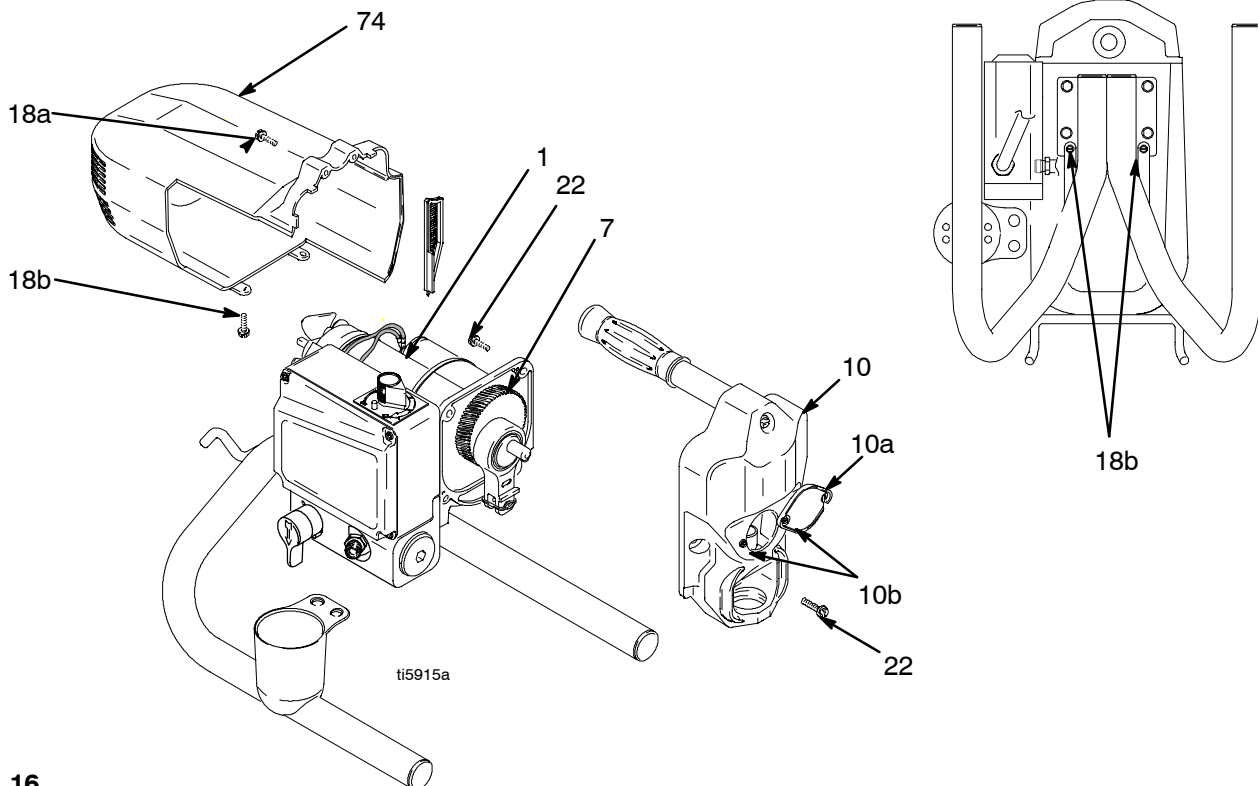

Fig. 16
2. Remove pump (13); **Displacement Pump Replacement**, page 26.
3. Fig. 16. Remove two screws (18a). Tip sprayer up. Remove two screws (18b) and remove shroud (74).
4. Remove two front screws (22).
5. Remove two back screws (22).
6. Pull drive housing (10) off of motor (1).
1. Push drive housing (10) onto motor (1).
2. Install two front screws (22).
3. Install two back screws (22).
4. Fig. 16. Install shroud (74) with two screw (18a). Tip sprayer up. Install two screws (18b).
5. Install pump (13); **Displacement Pump Replacement**, page 26.